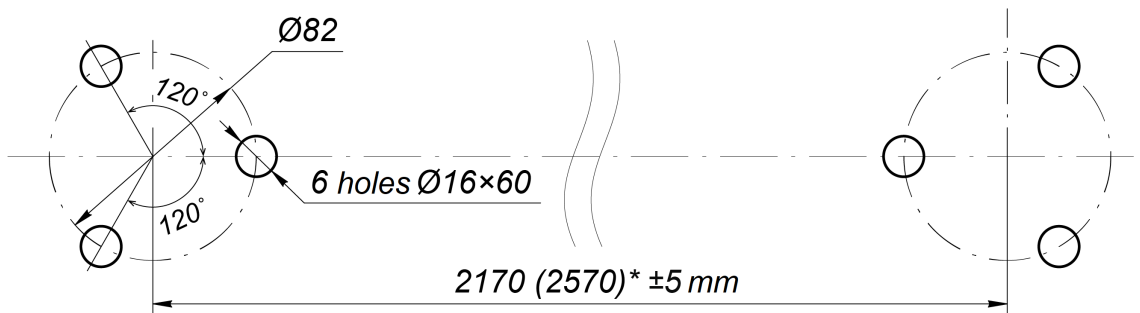

Figure 17. Holes for post flanges of double railing section with magnetic BD
2. Mark out and drill holes on the mounting surface for the anchor bolts in accordance with the scheme (see Figure 17). Mark out the centers of railing posts, the points of flange fastening are marked from them. It's possible to use the flanges as templates.